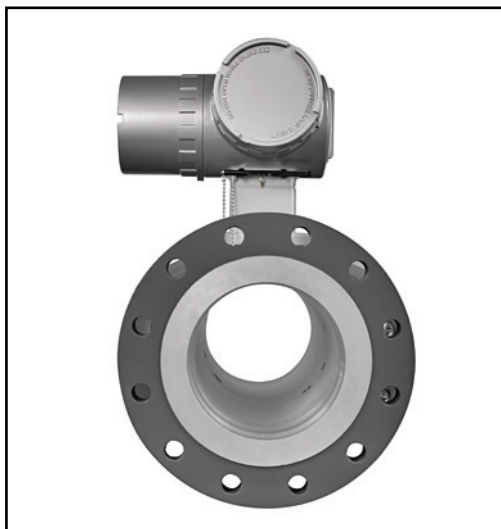

Figure 15: Sentinel LCT4 mounting flange end view
3. Align the flange mounting holes as shown in *Figure 15* below.